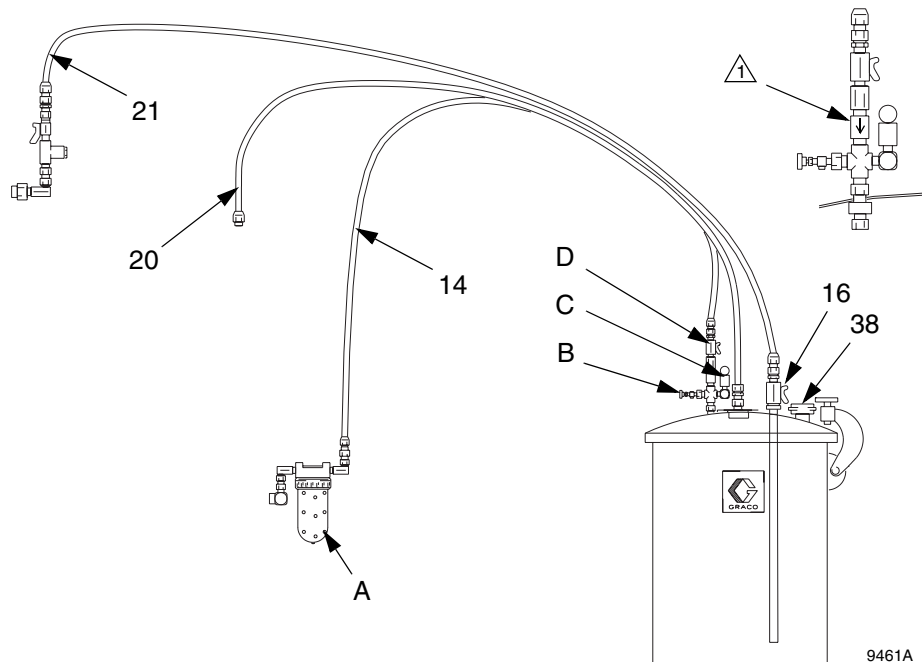

FIG. 30
1. Close the air supply shutoff valve (D), where the air tube connects to the tank air manifold. See FIG. 30.
2. Depressurize the tank by opening the vent drain valve (B) on the air manifold.
3. Unscrew the fill port cap (38).